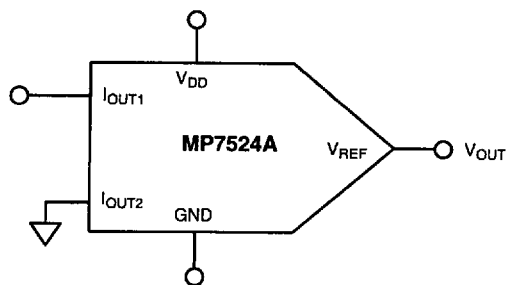

Figure 7. Voltage Mode Operation
- (1) Full Scale Range (FSR) is 10V for unipolar mode and ±10V for bipolar.
- (2) Guaranteed but not production tested.
- (3) Digital input levels should not go below ground or exceed the positive supply voltage, otherwise damage may occur.
- (4) See timing diagram.
- (5) Specified values guarantee functionality. Refer to other parameters for accuracy.
- (6) Refer to Figure 7.